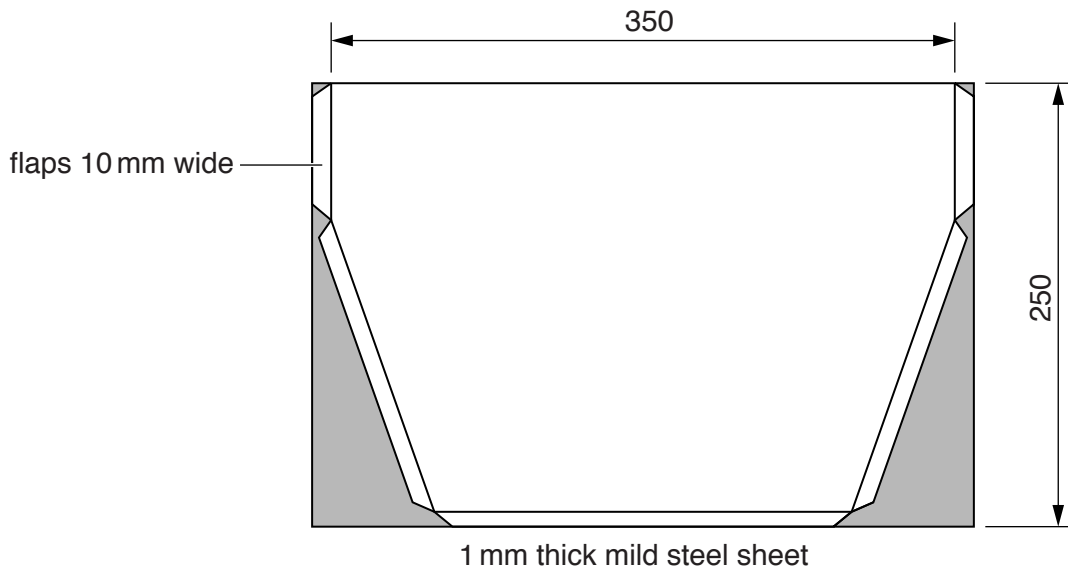

Fig. 9
- (c) Fig. 9 shows one end of the barbecue body marked out, ready to be cut to shape.